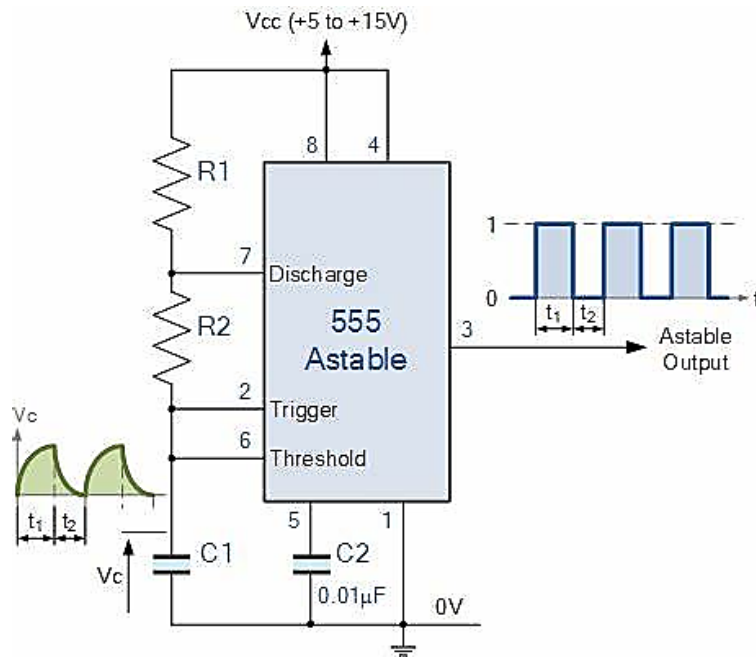

Fig 3.9: Astable mode of a 555 timer
- c. **Astable Mode:** The 555 timer acts as a square wave oscillator in the astable mode. A wide range of frequencies can be obtained and the duty cycle can equally be varied. Figure 3.9 shows a typical astable circuit.